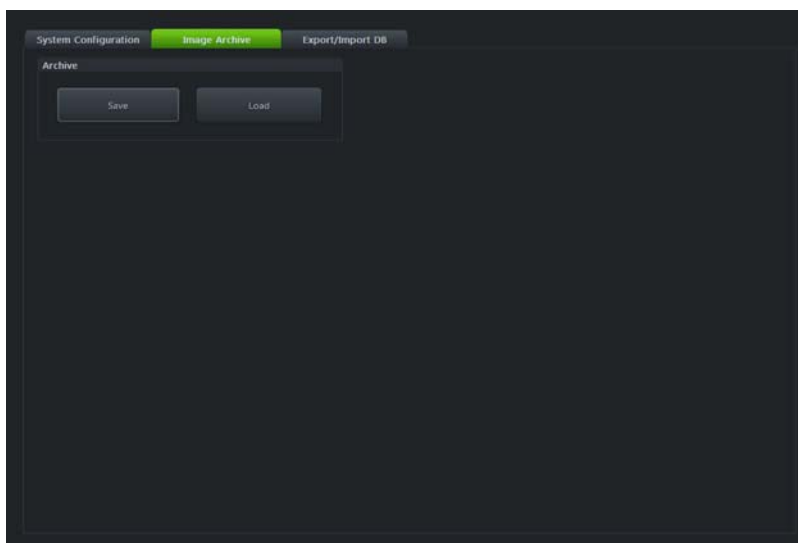

Figure 4-23 System Setup - Backup - IMAGE ARCHIVE page
- 4.) Click the **LOAD** button (see: Figure 4-23 on page 4-21).